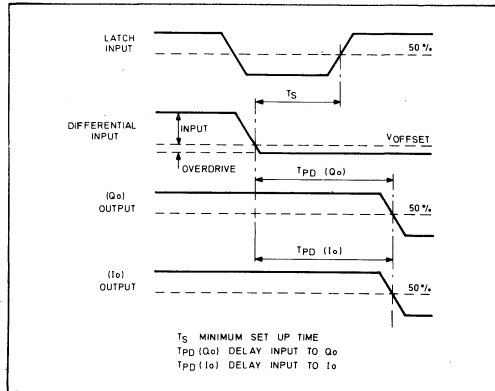

Fig. 3 Timing waveforms
- This parameter is measured with +100 mV input and -5mV overdrive, corrected to take account of the comparator offset, i.e. the switching threshold is at 0 V on the input waveform. The minimum set up time is defined as the minimum delay between the time the input voltage crosses the input offset voltage to the 50% crossing of the latch input, required to latch the Q_{O} output into the correct state. (See Figures 3 and 4). When the latch is low the comparator is in the "follow" mode, and when the latch is driven high the latch locks the output in the existing state.